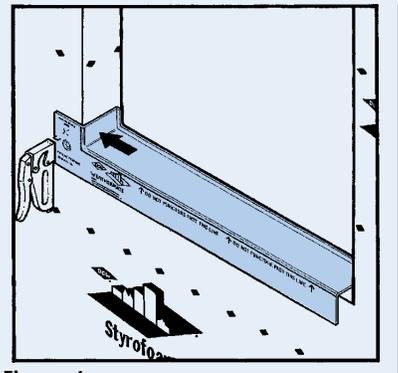

Figure 4
- b. Press firmly against corner of window opening. Nail or staple in place, following embossed instructions on product (Figure 4).